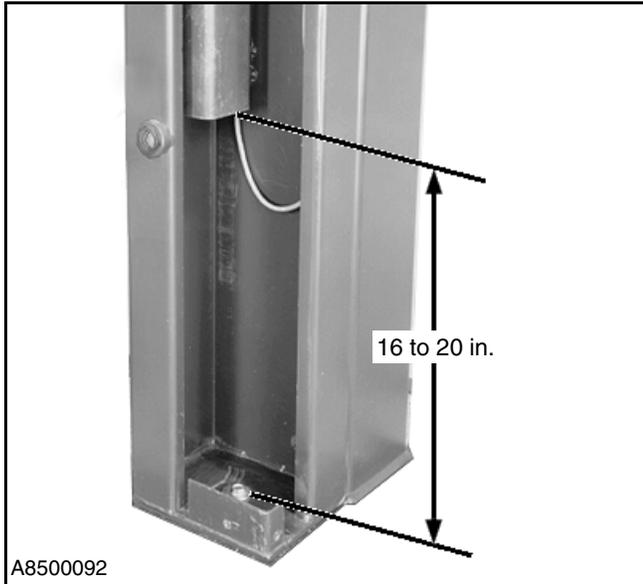

Figure 21
- Securely block each counterweight 16 to 20 in. above the bottom of the side column. (See Figure 21.)
IMPORTANT: *The 16 to 20 in. mounting height for each counterweight, as indicated in Figure 21, is adequate for most Turbo-Seal doors. However, for extra-wide or -short doors, the counterweights may have to be adjusted closer to the bottom of the side column.*